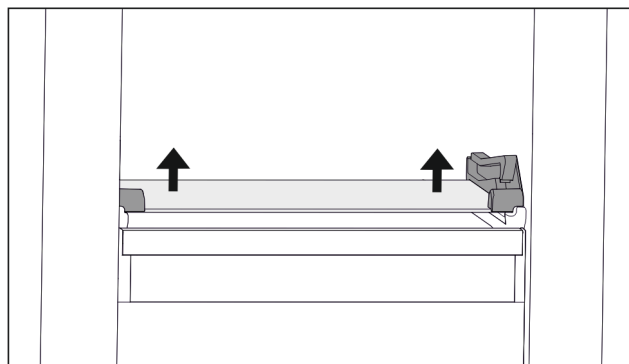

Fig. 63 Tilting drawer glass shelf
- ▶ Push glass shelf upwards from below on both sides. (see Fig. 63)